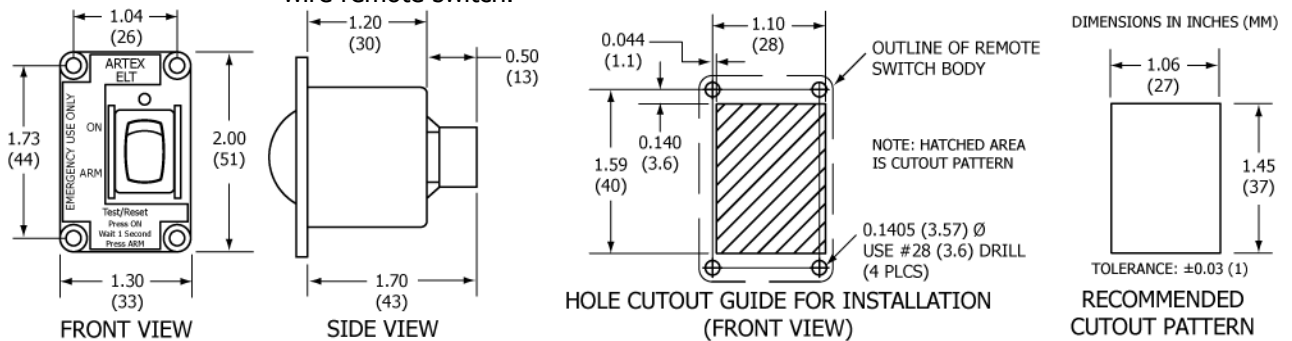

Figure 21 Remote Switch Outline and Dimensions
- 2) The switch assembly requires a panel area of approximately 2.0 x 1.3 in. (51 x 33 mm). Figure 21 shows the dimensions. The clearance behind the panel must allow for the mating connector and harness wires, as well as the switch depth.